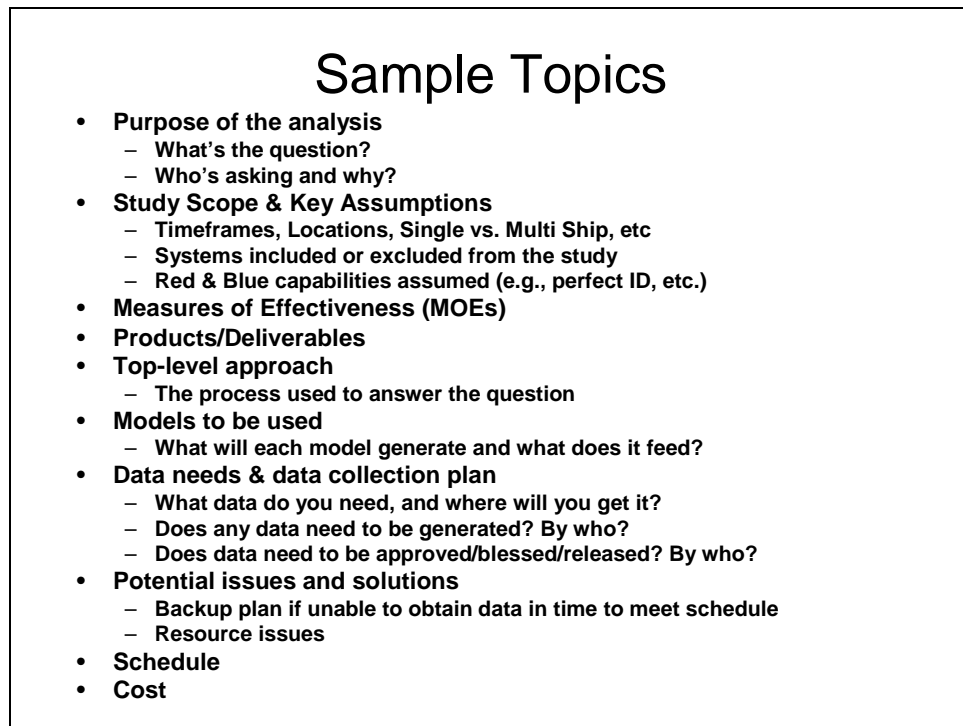

FIGURE 3. SAMPLE TOPICS FOR AN ANALYSIS PLAN
1. *Think through the problem.* Figure 3 contains some sample topics for a general analysis plan. In the course of developing your plan, you will need to answer many questions, such as: How will you approach the problem? Do you already have data that can be used to answer the question? Will a simple graph answer the question? Will you need to run a model? Which model(s) will you use? What assumptions will need to be made? Do you need to generate any input data? How will the data be generated? Who will do it? Does the data have to be approved? By whom? What are the appropriate measures of effectiveness? How will you display the results? How long will the analysis take? How much will it cost? Who will be working on the study? Are they available when needed? By answering these and other questions, you will greatly increase your understanding of the problem at hand.